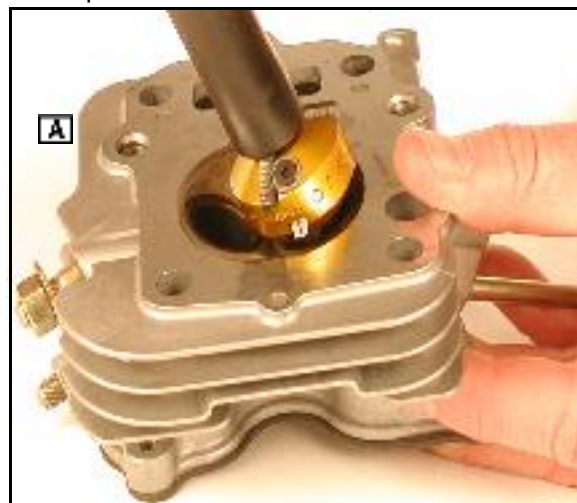

Fig. 15
1. Cut valve seats with Neway Valve Seat Cutter Kit #19237 or #19343, ([A] Fig. 15) to specifications listed for your engine's exhaust and intake seats.